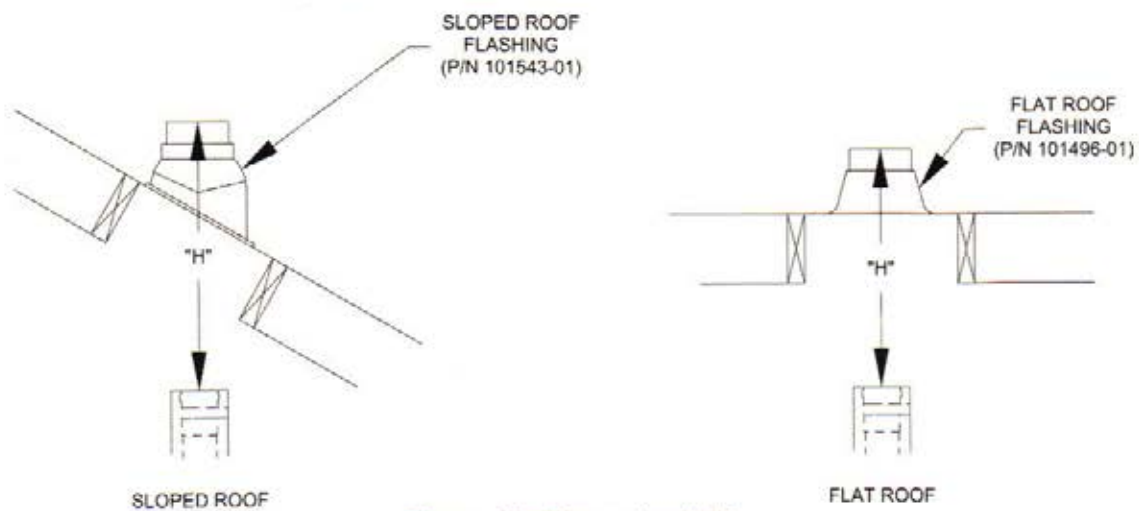

Figure 28: Dimension "H"
- Measure distance "H" from the top edge of the storm collar to the end of the last fitting as shown in Figure 28.